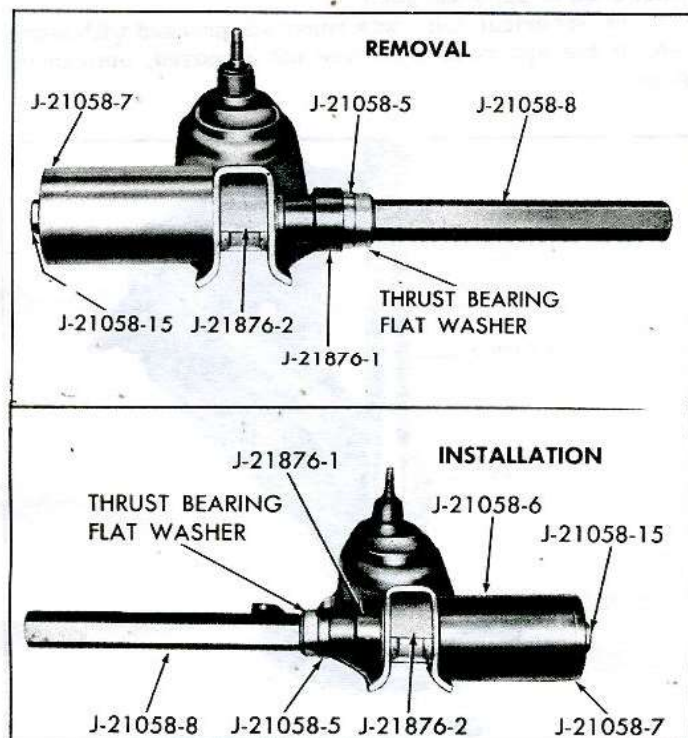

Fig. 3-20—Removing and Installing Lower Control Arm Bushings
19. With the control arm removed from the vehicle, set up the removal tools as shown in Figure 3-20.
21. With the bushing hand-started into the control arm, set up the installation tools as shown in Figure 3-20. Notice that the bushing must be pressed into the arm from the rear (the side on which the stabilizer bar bracket is mounted) and that the bushing must be pressed from its flanged end.